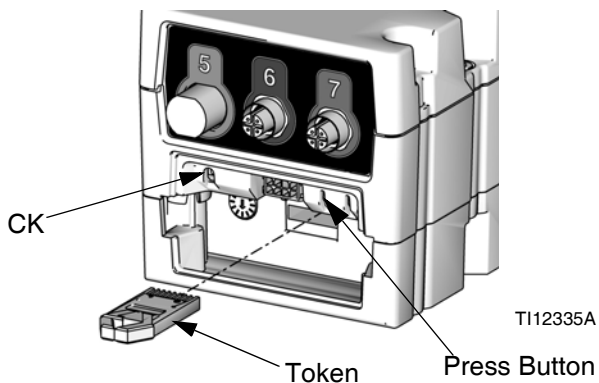

FIG. 56: Insert Token
4. Press and hold the button shown in FIG. 56 for ~1 second, then release. The red indicator light (CK) will flash until new software is completely loaded.